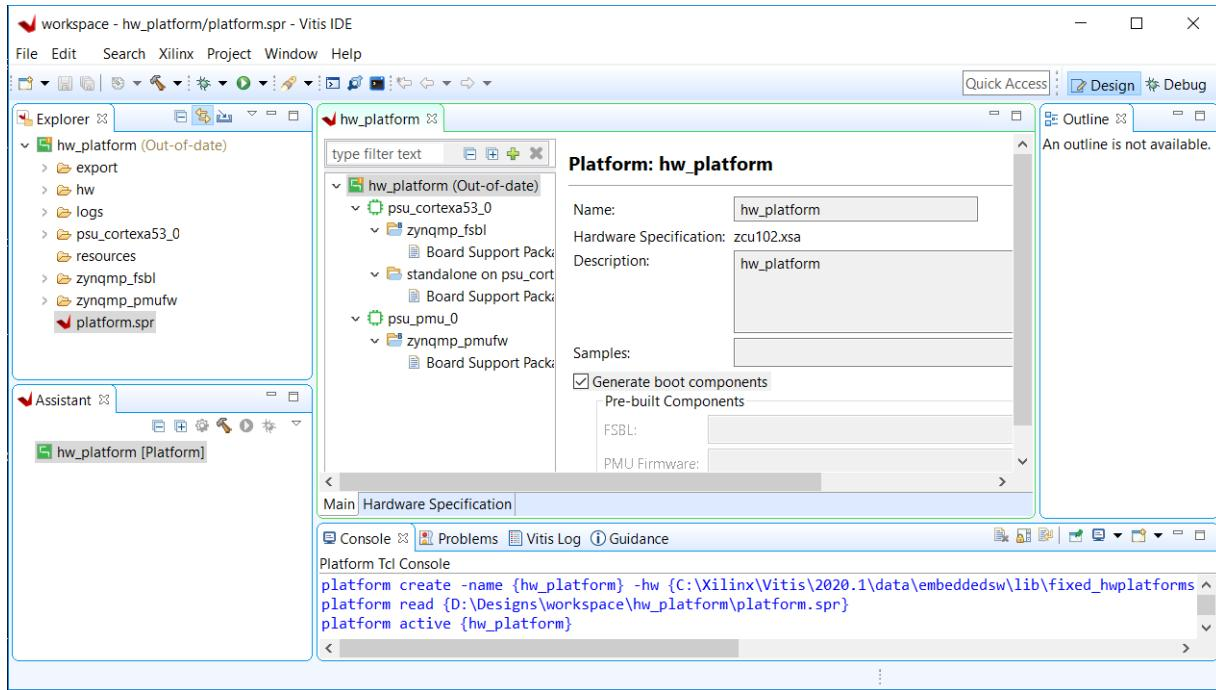

Figure 5: Platform View in Vitis
8. Click **Finish** to create your platform project. The platform project editor opens as shown in Figure 5.